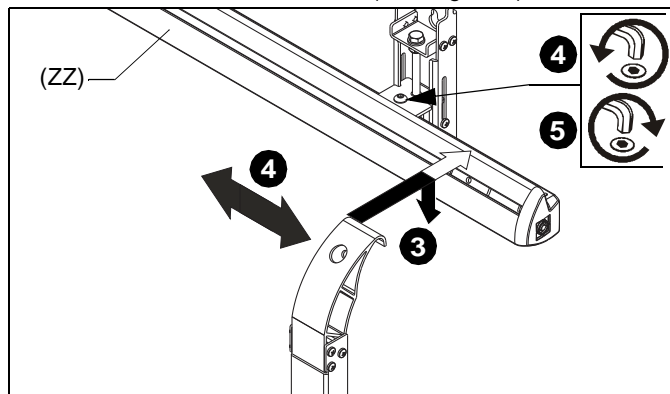

Figure 7
3. Hang uprights/cross brackets assembly on the wall assembly (ZZ). (See Figure 7)
4. The mounting system may be laterally shifted by loosening the button head cap screw on each wall bracket and moving wall assembly within wall brackets, or by shifting the uprights assembly laterally along the wall assembly (ZZ) to the desired location. (See Figure 7)